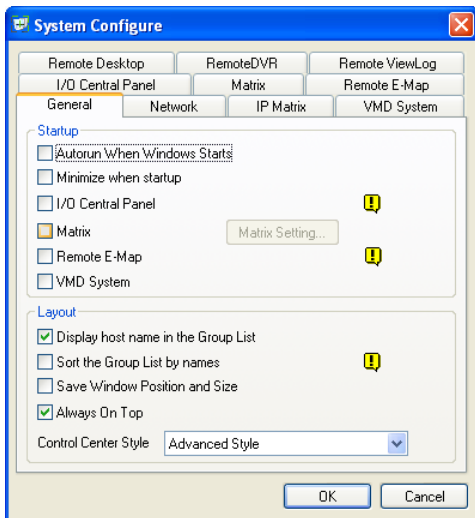

Figure 4-69
1. Click the **Configure** button and select **System Configure**. The System Configure dialog box (Figure 4-69) appears.